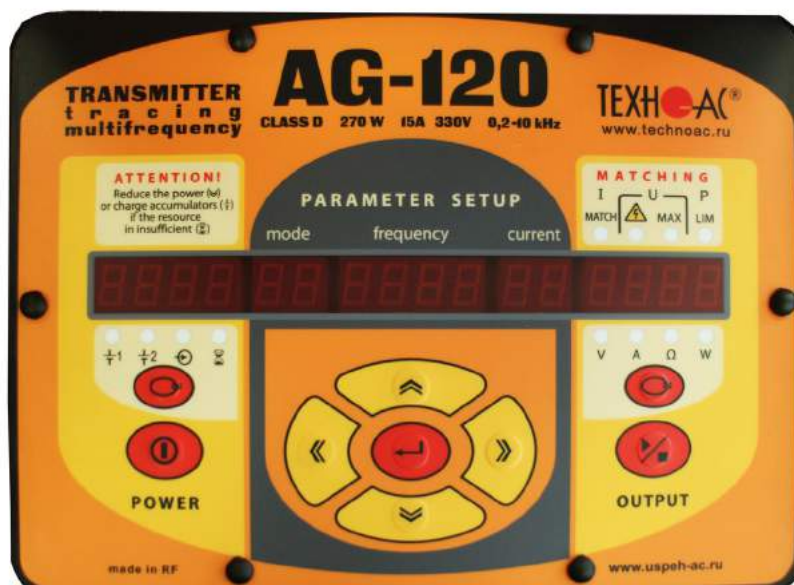

Fig12.7
The field «PARAMETER SETUP» **figure 12.7** is used for selection of one of three generation frequencies f1, f2, f3, one of three modes of sine generation (continuous «CO», one frequency transmission «PU», two frequencies transmission «2F» or charging mode «CH») and of four current loads. If necessary the “banks” of currents and frequencies can be modified quickly. The use of the transmitting antenna as a load is possible only if a generation frequency of 8192 Hz which is set automatically when the antenna is connected to the output.
1) To enter the setup mode depress the button of entering into parameters setup « ↵ » pos.5 while staying in the “stop” mode (no generation, yellow LEDs on the “OUTPUT” field **figure 12.7**. are not on). Will begin to blink field of the indicator «MODE».
2) Depending on the task, to set the mode the buttons « ^ » or « v » (cycle) pos.5 **figure 12.7** are used to select on the field “MODE” the symbol depicting the required generation mode or mode of internal accumulators charging. The mode codes are shown on figure 4.8. If the transmitting antenna is connected to the output, the signal «AC» is indicated (mode «antenna, continuous»). The selection in this case is possible only between modes «AC» and «AP» (mode «antenna, pulsed») directly by the buttons « v » or « ^ ».